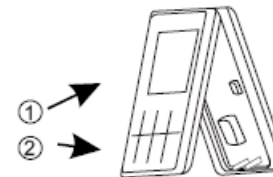

Fig. 4
5. After connecting the connecting cable to the main body of the cable controller as shown in Figure 4, install the main body according to the following steps: